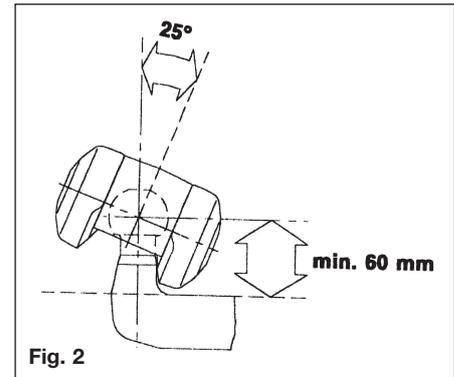

Fig. 2
- The area above the towball of the vehicle must be free from vehicle components or attachments (A) (eg spare wheels, platforms etc.)
- The clearance for the stabiliser handle must be at least 330mm (B) + the stroke movement (D) (85mm-100mm), which equates to 440mm when used in conjunction with AL-KO overrun.
- Max 50mm (C) clearance between the centre of the towball and top of the overrun assembly or fairing, to ensure both coupling handle and stabiliser handle do not foul on operation.
2. Not suitable for use with overrun devices, which can revolve above 25° (Fig 2).
3. Swan Neck towbars (fixed or detachable) are suitable for use with the AKS 2004 providing they comply with EC Directive 94/20 and have the required minimum 60mm clearance, measured from the centre of the towball (Fig 2).